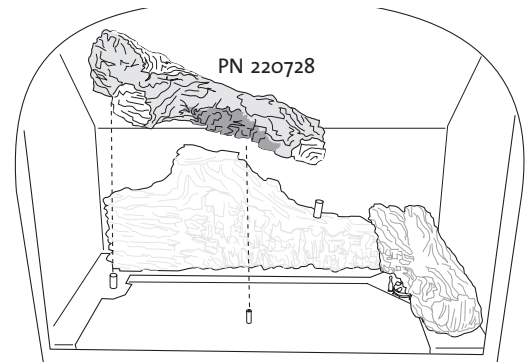

Figure 12. Install left log
3. Place the left log on the pegs as in fig. 12.